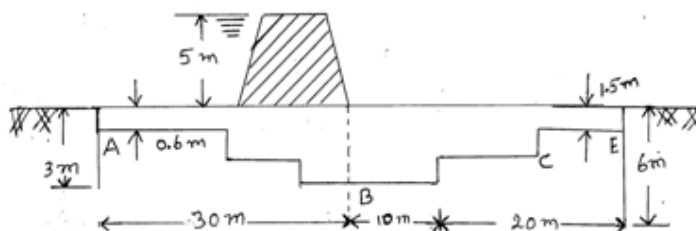

Fig :1
- (b) The cross section of a weir is shown in Fig 1. Calculate (i) uplift pressure at point A and E, (ii) Thickness of concrete apron at point B, (iii) Exit gradient. Use Khorla's curves. [8M]